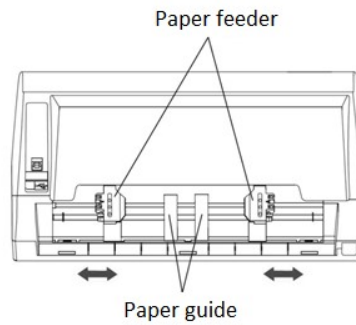

Fig. 2-7
- 4) As shown in Fig. 2-7 , there are 2 chain paper feeders in the back of printer, and 2 paper guides in the middle to support the paper. These 4 parts can be moved leftwards and rightwards. **(Note: Move the right feeder leftwards to the suitable position when you printing narrow paper).**